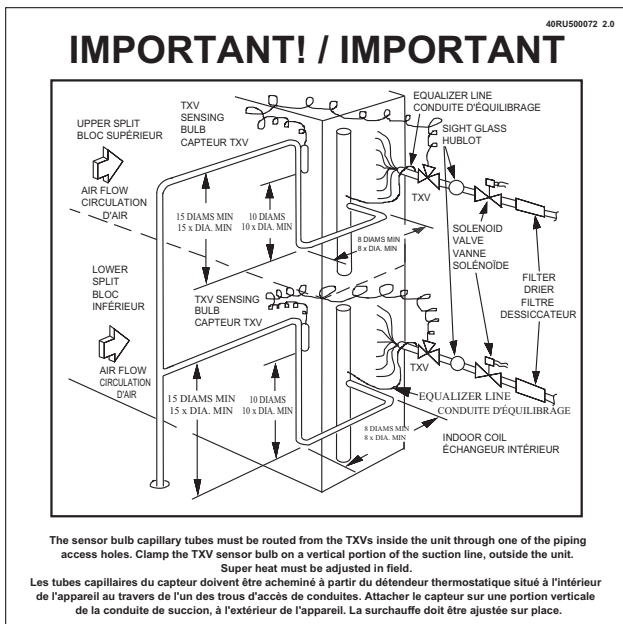

Fig. 26 — TXV Bulb Location Label
- Is TXV bulb located on suction tube per Fig. 26?